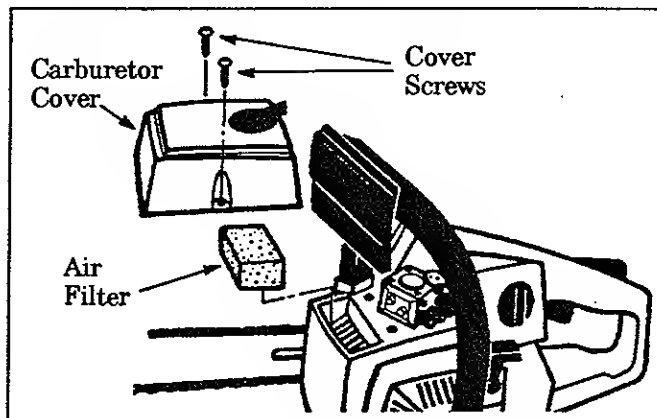

Figure 38
3. Remove the cover screws and carburetor cover. Figure 38.